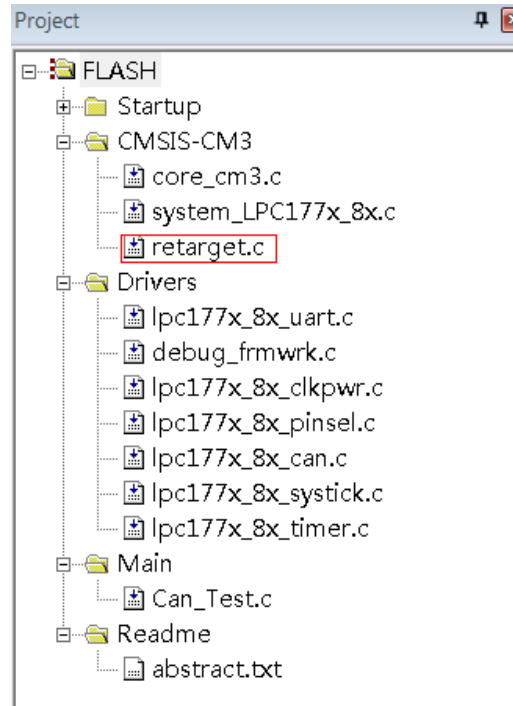

Figure 3-22
(1) Add retarget.c files to project which defines fputc function. retarget.c file in \05-MDK\_Source\common\ CoreSupport directory. User is advised to add retarget.c file to CMSIS-CM3 group, as shown in figure 3-22: